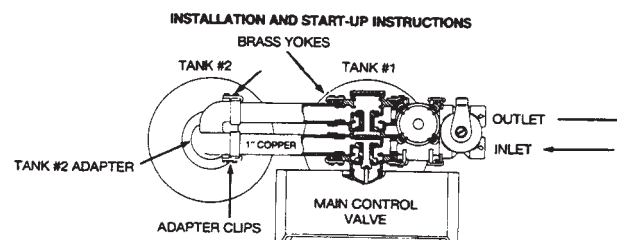

FIG. 2
- Two lengths of 1-inch copper tubing (Fig. 2) is required to connect the control valve on tank #1 to the adapter on tank #2. A minimum spacing of one inch between the media tanks is recommended. Use the following chart to provide the one-inch spacing.